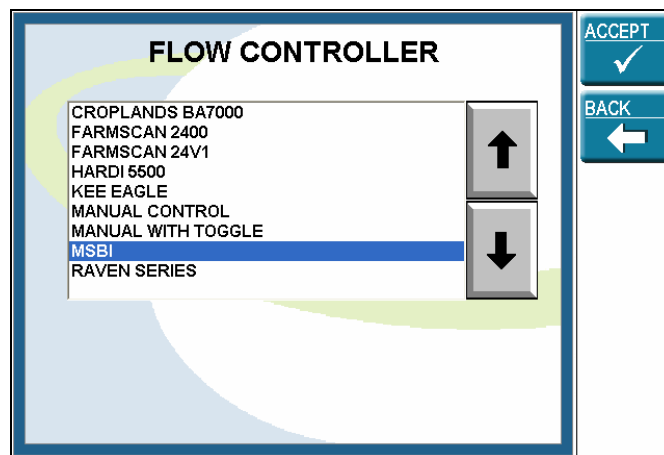

Figure 6-10: Flow Controller List Window
- 3) Select MSBI from the Flow Controller list as shown in Figure 6-10